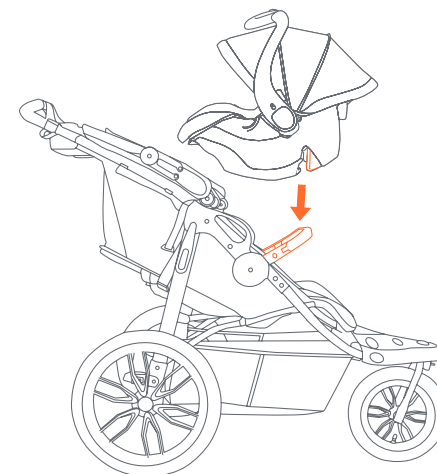

Fig. 17a
- 17) •** Position the infant car seat so that it faces toward the rear of the stroller and the car seat base hooks lock onto the bumper bar (Fig. 17a).